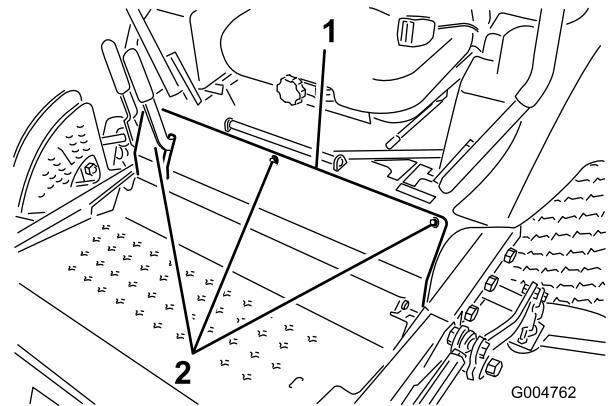

Figure 57
3. Remove the bolts securing the front panel and remove the panel (Figure 57).